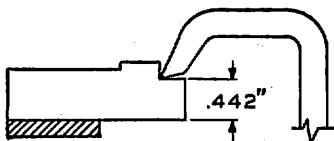

Fig. 54
(1) Check two end and one middle pullbar using 99391M gauge as in Figs. 54 and 55.
(2) To adjust, add or remove shims between switching contact plate and mounting posts for first requirement and utilize clearance in mounting holes in plate and brackets to meet second requirement.